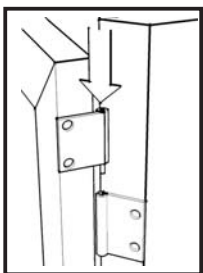

Figure 3
Attach Doors (N) and (O) by sliding the door lift hinges into the side panels' lift hinges. (See figure 3)